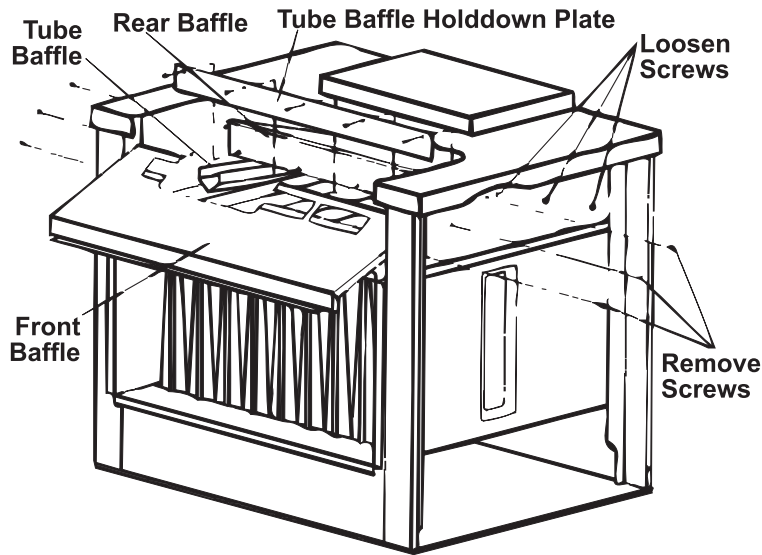

Figure 26. Heat Exchanger V-Baffles Removal
- b. Remove heat exchanger V-baffles (see Figure 26):
- (1) Remove ends of flue gas collection box.
- (2) On control side of furnace, remove venter assembly and flue outlet duct to gain access to collection box end.
- (3) For model RP unit sizes 125–300, remove screw that secures one tube baffle retaining angle on each inside wall of collection box and remove angle.
- (4) For model RP unit size 400, remove inner baffle from flue collection box: on control side, align inner baffle with slot in collection box edge and pull inner baffle until it clears heat exchanger. Remove screw at each end and slide flue diverter out of furnace.
- (5) Pull V-baffles out of heat exchanger.